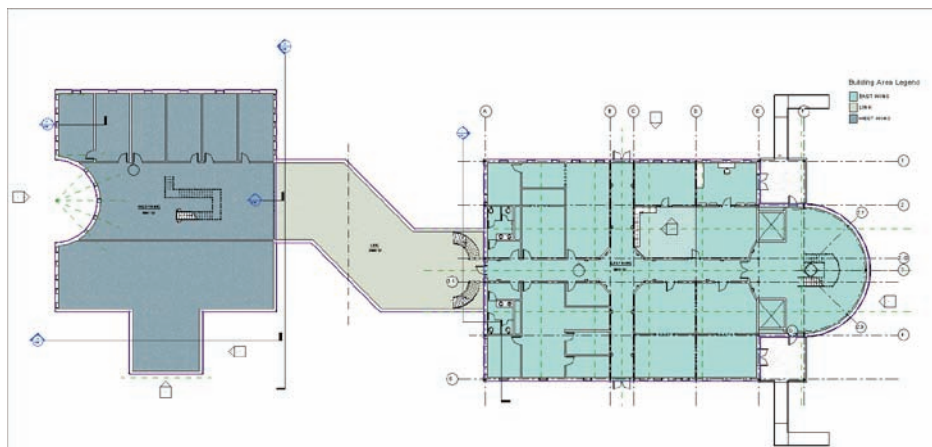

FIGURE 15.29 Adding an area legend
25. Click OK to return to the model (see Figure 15.29).